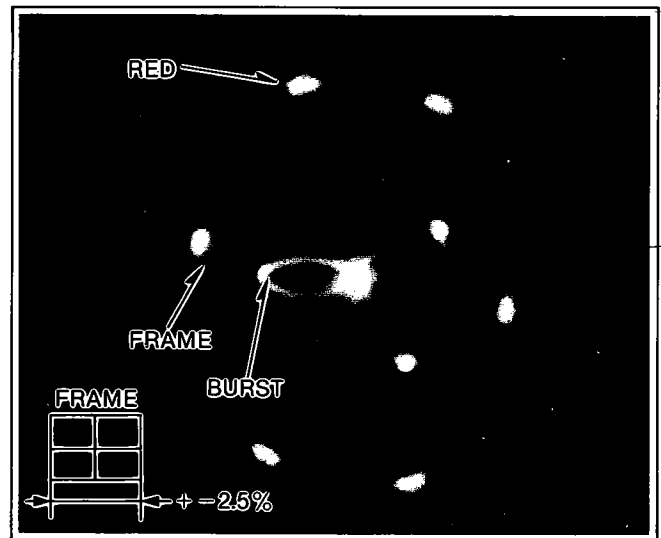

Figure E29
4. Turn on the TBC SW and adjust VR9004 until the burst vector gain is the same as the TBC SW OFF. See Figure E29.